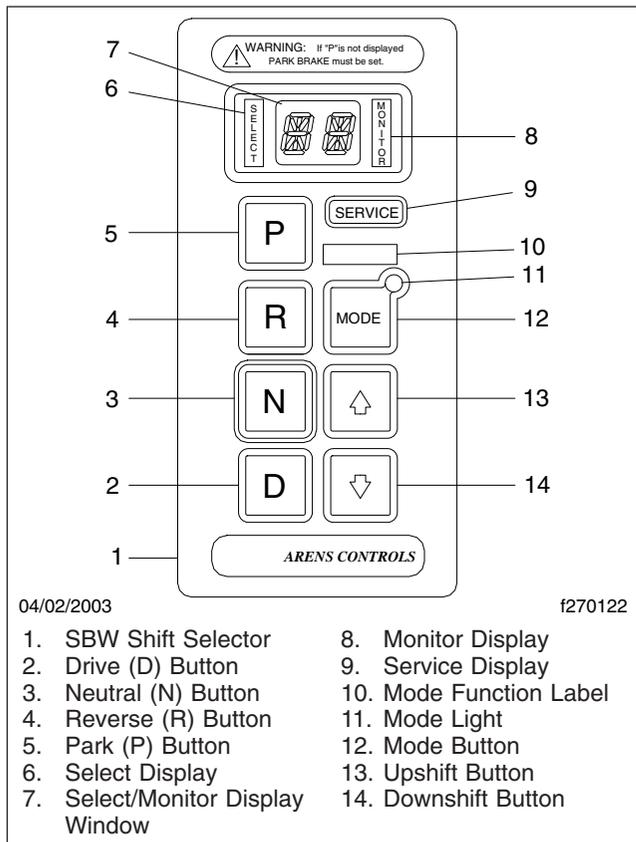

Fig. 6.2, SBW Shift Selector (2100/2500 series)
The 2100/2500 series transmissions have a park pawl and the SBW selector has a Park (P) position. See Fig. 6.2.